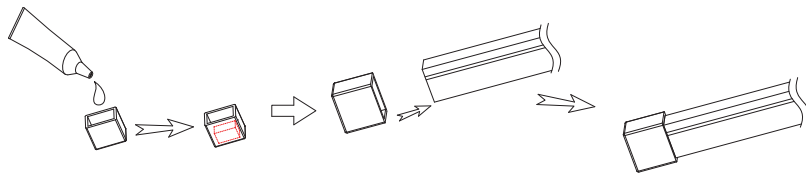

Figure 4
2. Fill the plug with glue, and put the neon flex into the plug, installation completed, as shown in Figure 4.
5. Put the wire encased into the plug, and repeat Figure 4 gluing steps, and then insert the neon flex into the plug, installation completed, as shown in Figure 7.